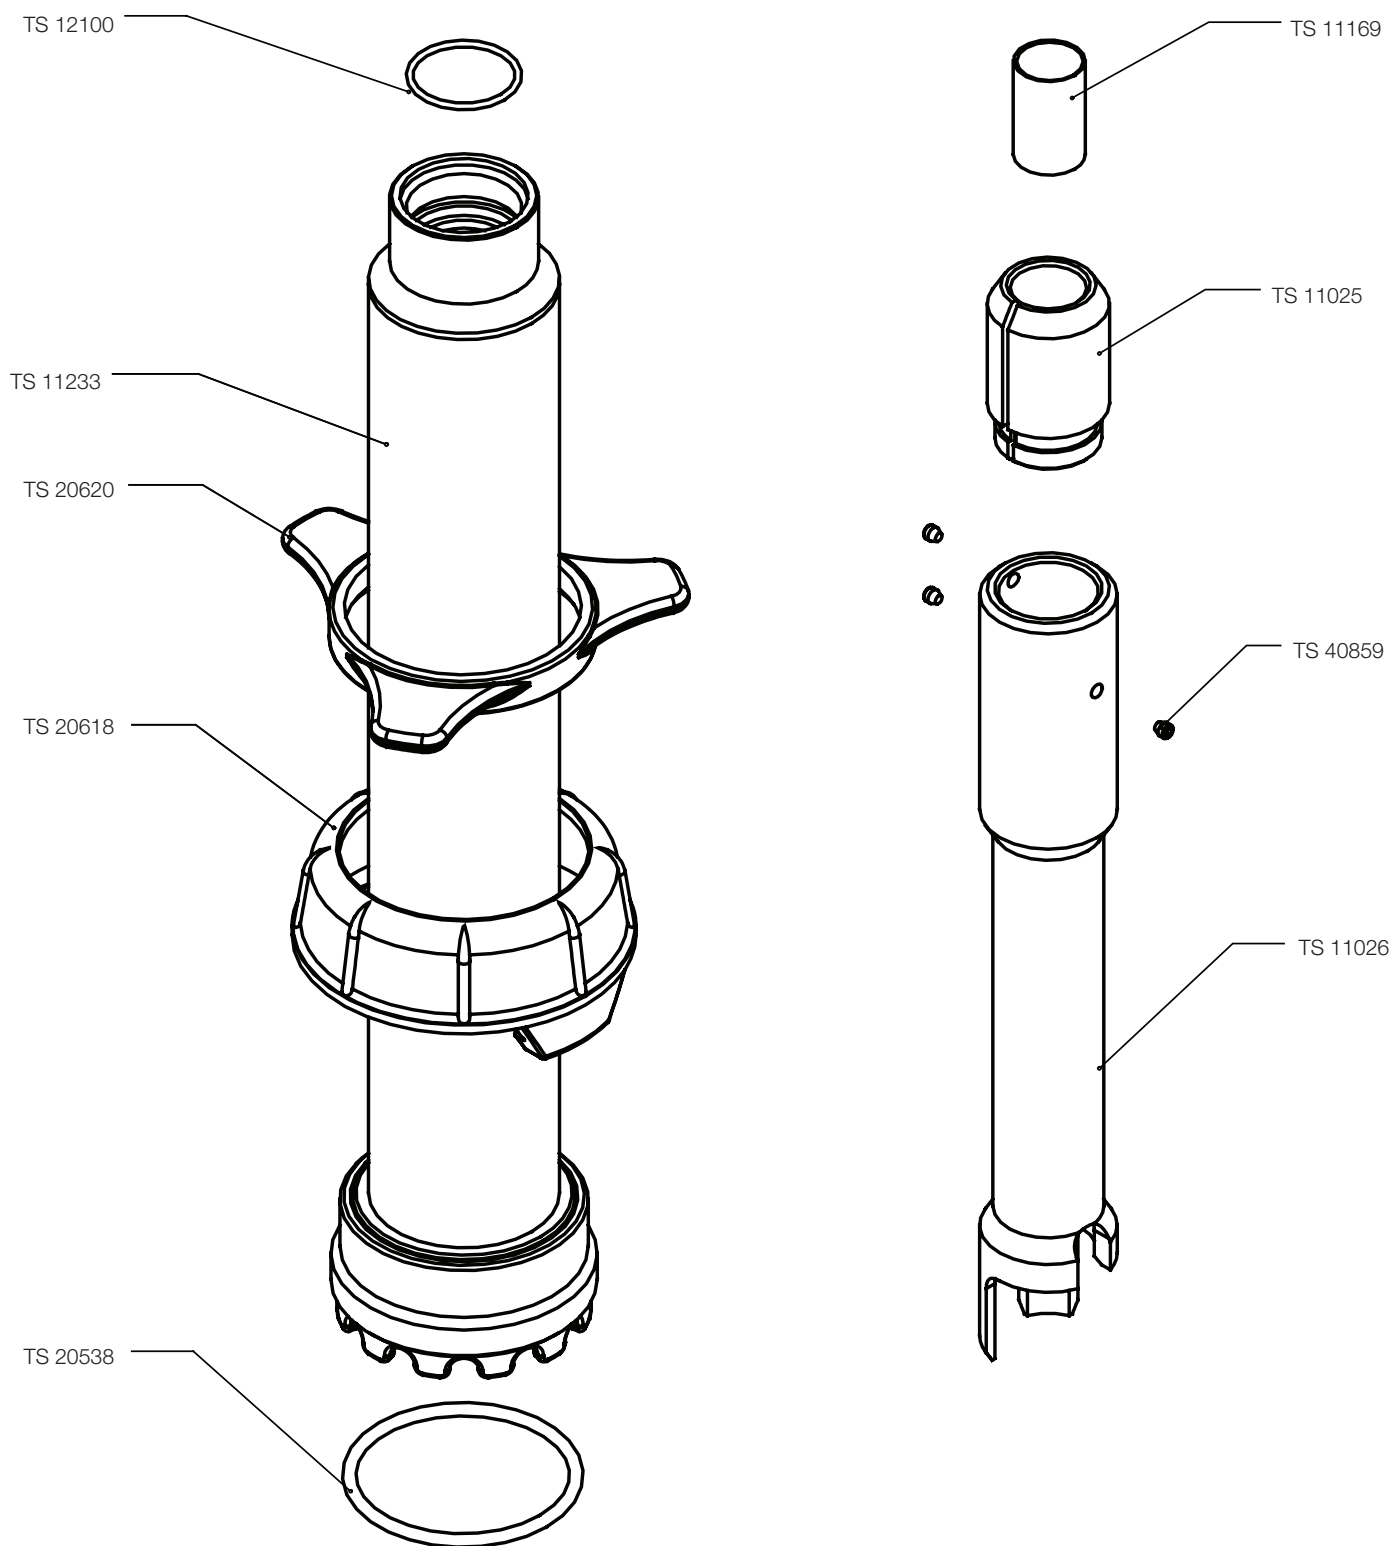

Figure 13-7: storage tube SS2-Q2 with load TS 10188, details
- Figure 13-7: storage tube SS2-Q2 with load TS 10188, details